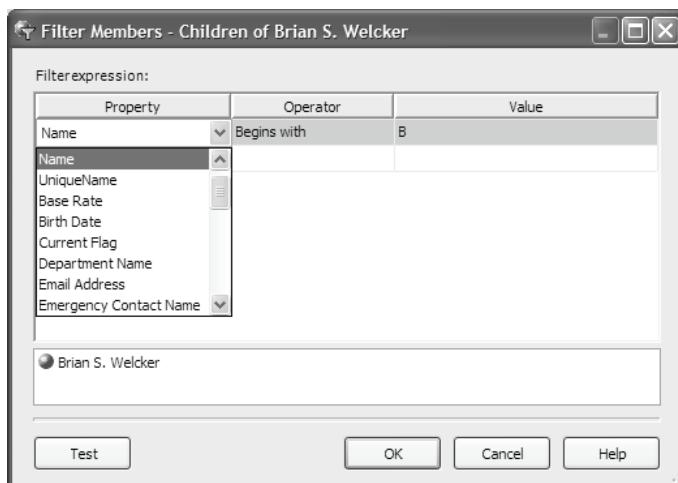

Figure 3.29 Use the Filter Members dialog to find dimension members by searching on the member properties.
3. Expand the Employees hierarchy to Level 04 and select an employee associated with that level, e.g. Amy E. Alberts. Let's find all members whose names start with "B". Click on the Filter Members button  to bring up the Filter Members dialog (Figure 3.29).